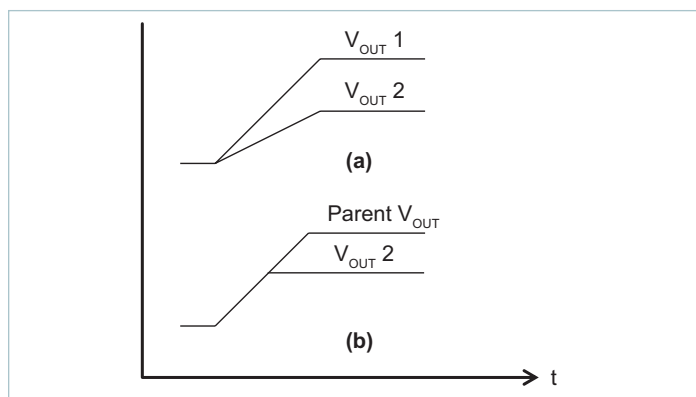

Figure 40 — PI33xx tracking methods
There is typically either proportional or direct tracking implemented within a design. For proportional tracking between several regulators at start up, simply connect all devices TRK pins together. This type of tracking will force all connected regulators to start up and reach regulation at the same time (see Figure 40(a)).
All connected regulators’ soft-start slopes will track with this method. Direct tracking timing is demonstrated in Figure 40(b). All tracking regulators should have their Enable (EN) pins connected together to work properly.